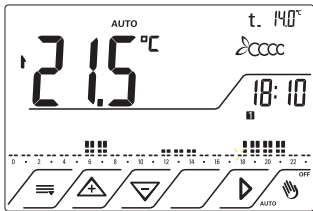

Fig.17
5.2.2 Press again  ^{AUTO}. The display shows AUTO. Fig.17